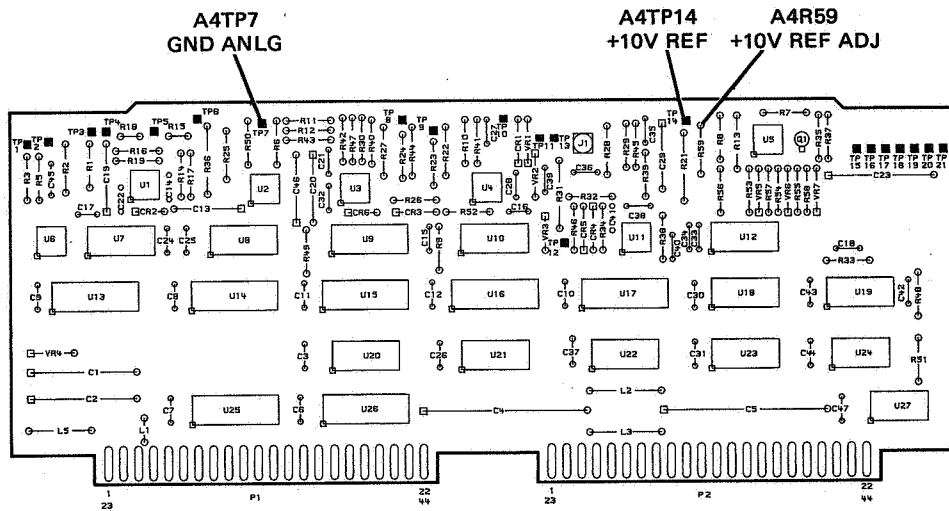

Figure 5-7. Location of +10V REF DAC Power Supply Adjustment.
5. Adjust A4R59 +10V REF ADJ for a DVM reading of  $10.0000 \pm 0.0001$  Vdc. Refer to Figure 5-7 for location of adjustment.